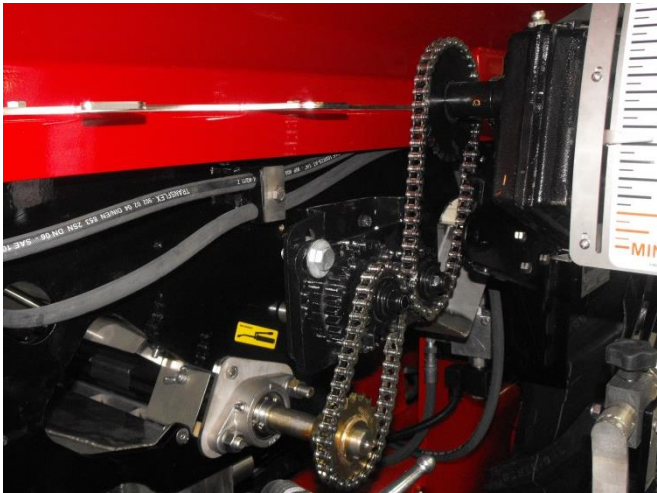

Figure 12F
bolts, they will be used to tight the chains [Figure 12F].
4. Install the two chains that are included with the reverse kit. One links the transmission to the reverse kit and the second one is to link the reverse kit to the metering shaft. [Figure 12F]. (Do not change the sprockets. Each model has their own configuration).